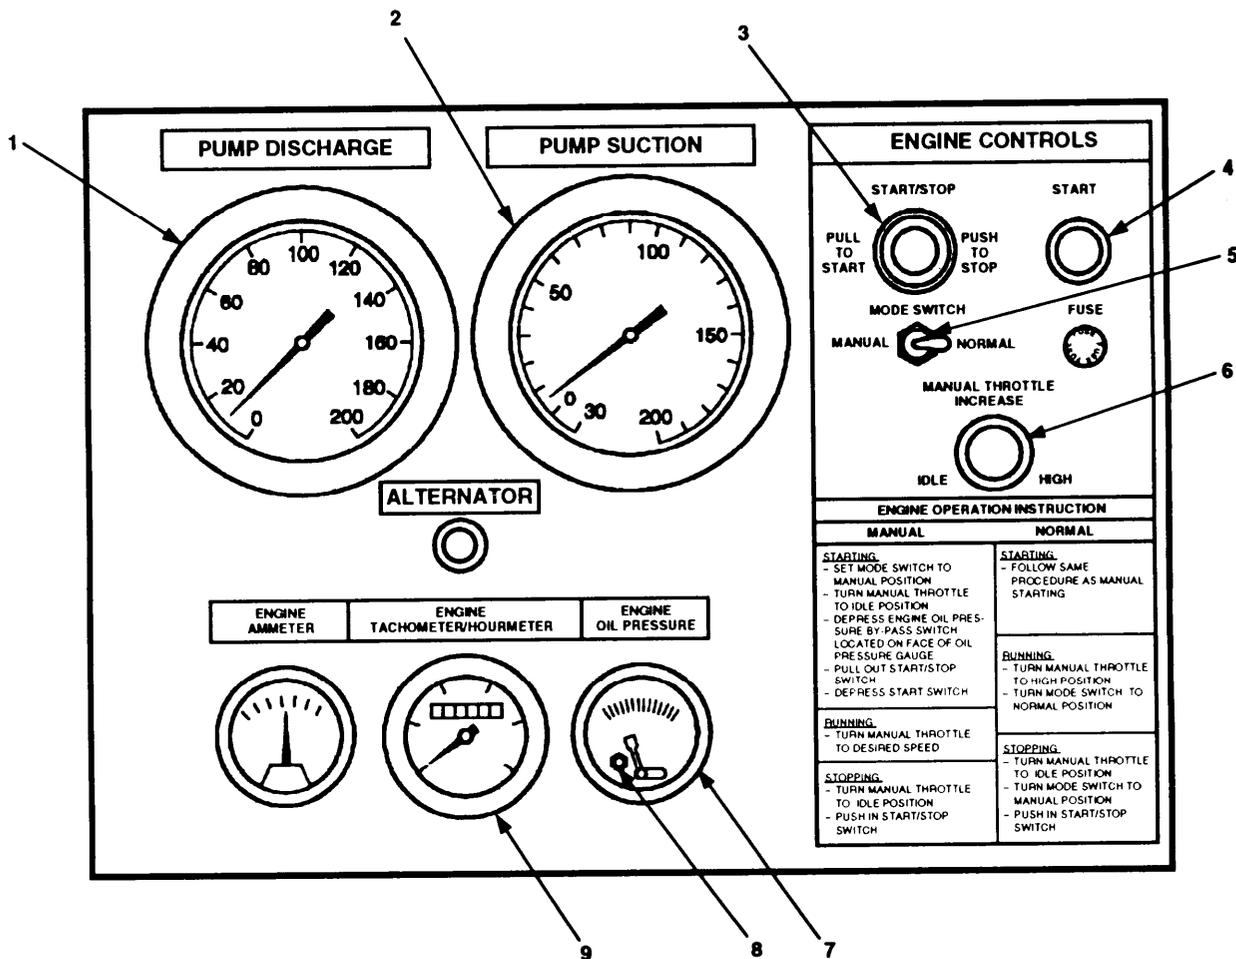

Figure 2-27. Model US636HCCD-1 Controls Used for Electric Manual Operation.
2.5.3.1 Electric Manual Mode. Before starting pumping assembly, make sure that the pump has been primed (paragraph 2.4.1 or 2.4.2). Refer to Figure 2-27 and start and operate pumping assembly as follows:
- b. Turn MANUAL THROTTLE INCREASE knob (6) counterclockwise to IDLE position.
- c. Set MODE SWITCH (5) to MANUAL position.
- d. Pull out START/STOP knob (3).